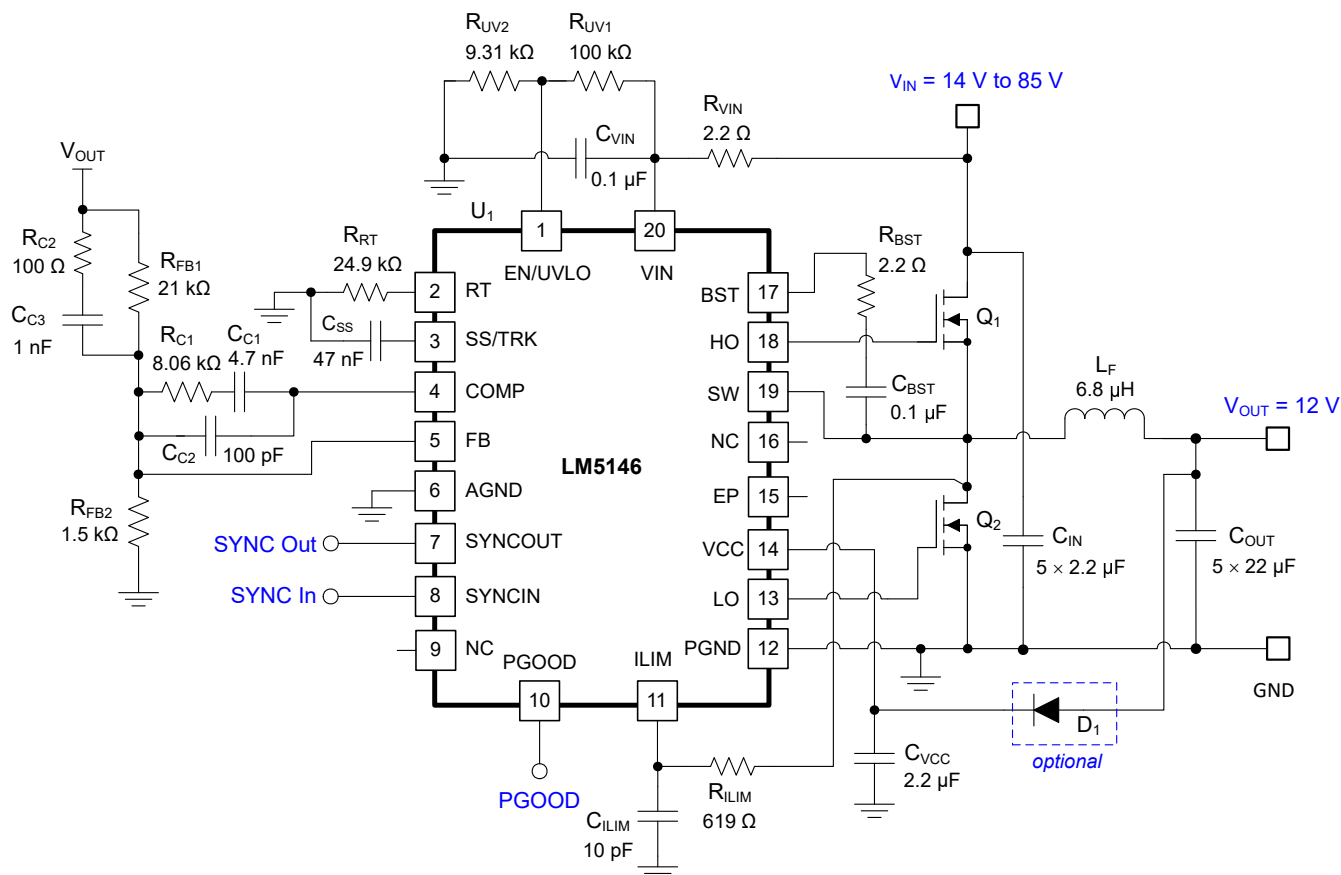

图 9-16. Application Circuit 2 With LM5146 48-V to 12-A Synchronous Buck Regulator at 400 kHz
Figure 9-16 shows the schematic diagram of a 400-kHz, 12-V output, 8-A synchronous buck regulator intended for 48-V telecom applications.
As shown in 图 9-16, a 2.2- Ω resistor in series with C_{BST} is used to slow the turn-on transition of the high-side MOSFET, reducing the spike amplitude and ringing of the SW node voltage and minimizing the possibility of C_{dv}/dt -induced shoot-through of the low-side MOSFET. If needed, place an RC snubber (for example, 2.2 Ω and 100 pF) close to the drain (SW node) and source (PGND) terminals of the low-side MOSFET to further attenuate any SW node voltage overshoot and/or ringing. Please refer to the application note Reduce Buck Converter EMI and Voltage Stress by Minimizing Inductive Parasitics for more detail.
3. Placing a 2- Ω to 10- Ω resistor in series with the boot capacitor, as shown in Figure 9-16, slows down the high-side MOSFET turn-on transition, serving to reduce the voltage ringing and peak amplitude at the SW node at the expense of increased MOSFET turnon power loss.